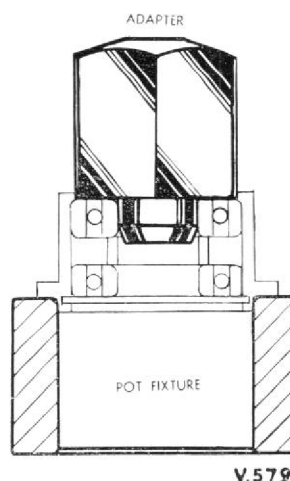

Fig. 8. Pot fixture T.77752 and adapter T.77751 for removing ball bearings and spacer from port hydraulic pump gear housing.
5. Position the housing, flange downwards, on pot fixture T.77752; using adapter T.77751 press out the two ball bearings and spacer, Fig. 8.